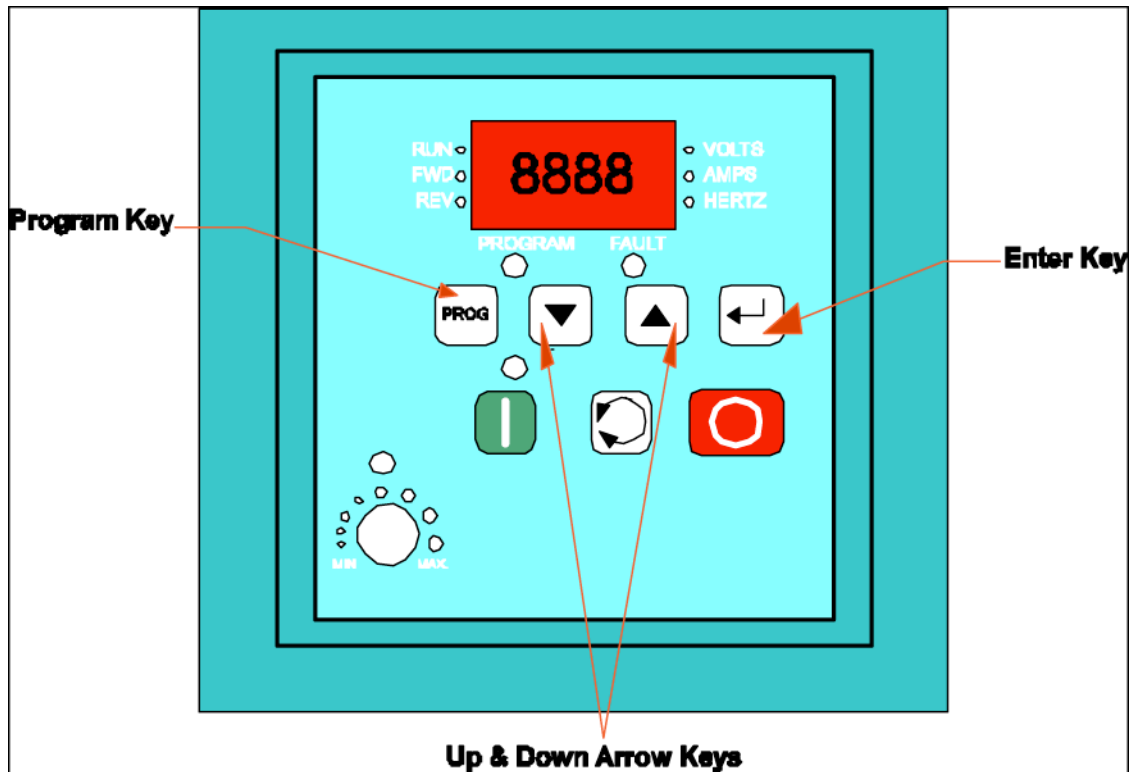

Figure 2: VFD Display
3. The following steps are necessary to reprogram the VFD to accept a 4 – 20 mA input (reference Figure 2).